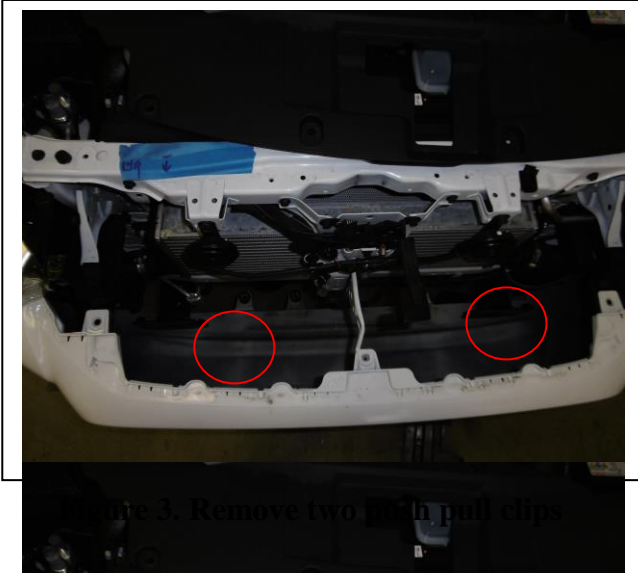

Figure 3. Remove two push pull clips
5. From bumper behind grille, remove two plastic push pull clips. **See figure 3.**